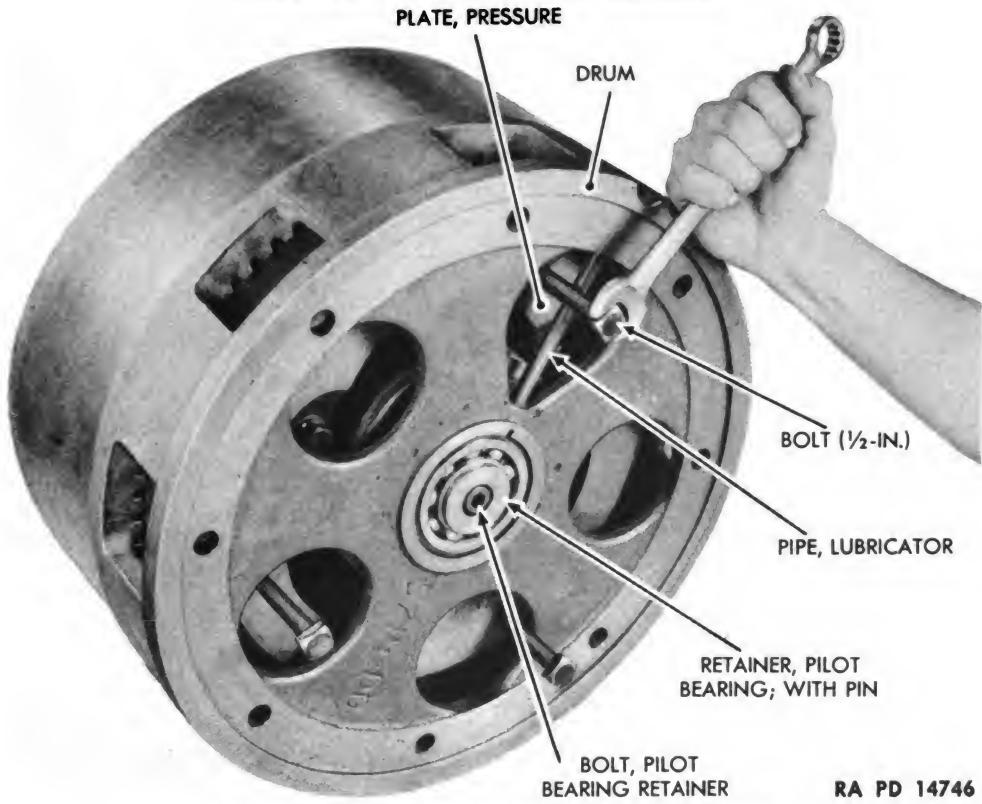

Figure 99 — Compressing Steering Clutch
- (4) COMPRESS STEERING CLUTCH SPRING (fig. 99).
(5) REMOVE PILOT BEARING RETAINER WITH PIN (fig. 99).